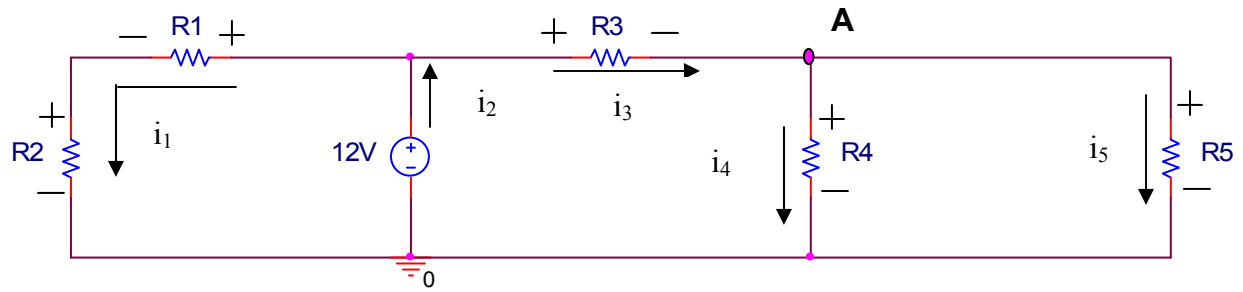

Figure 1
**P2.** Analyze the circuit shown in Figure 1. Calculate the currents flowing through each resistor and the voltage drop across each resistor in the circuit. Find expressions for the source current  $i_2$  and the node voltage at node A.
**P4.** → Using your prototype board, construct the circuit shown in Figure 1